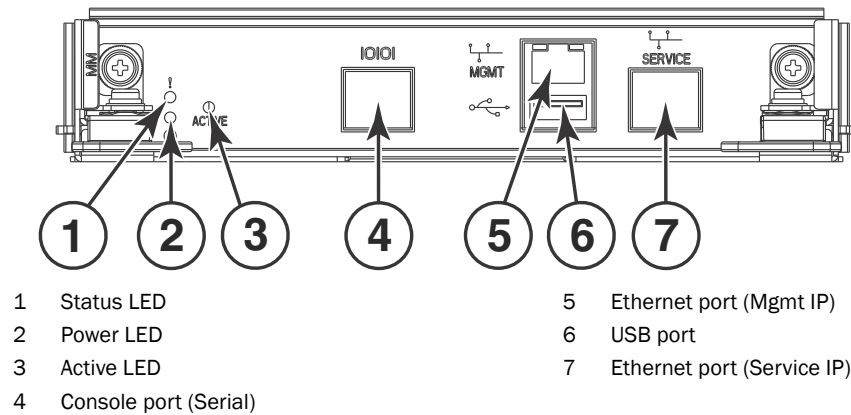

FIGURE 15 Management module
1. Check the LED indicators on the module (Figure 15). The LED patterns may temporarily change during POST and other diagnostic tests. For information about how to interpret the LED patterns, refer to Table 11.
Figure 15 identifies the management module.